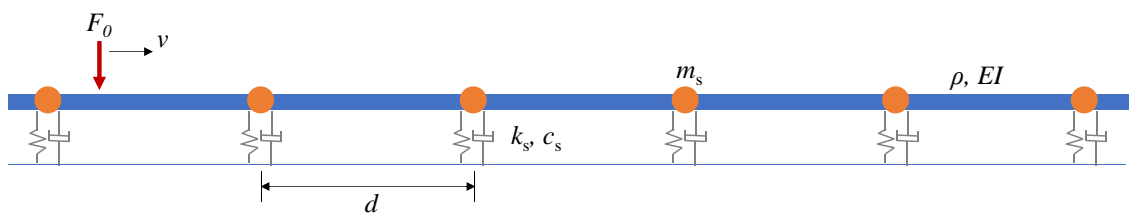

Figure 2. Hyperloop structure (top) and model (bottom) for problem 2.
Model the hyperloop structure as a beam on discrete periodic supports with concentrated masses at each support, as shown in Figure 2. The masses are used to model the inertias of the supports. The parameter values are listed in the Appendix.
- a. Use the Matlab model from canonical problem 6 (a two-layer railway track) to create a model for the hyperloop structure shown in Figure 2 (with a total length of 160 m). Calculate and plot the dispersion lines. Please plot the dispersion lines for the frequencies between 0 and 1000 rad/s, and include three Brillouin zones in your plot. Interpret the results.
Note that the input values have already been correctly set in the file 'get_input_hyper_loop.m'. You can see that the 'railpad stiffness' has been set to a very high value to model the hyperloop system shown in Figure 2.)